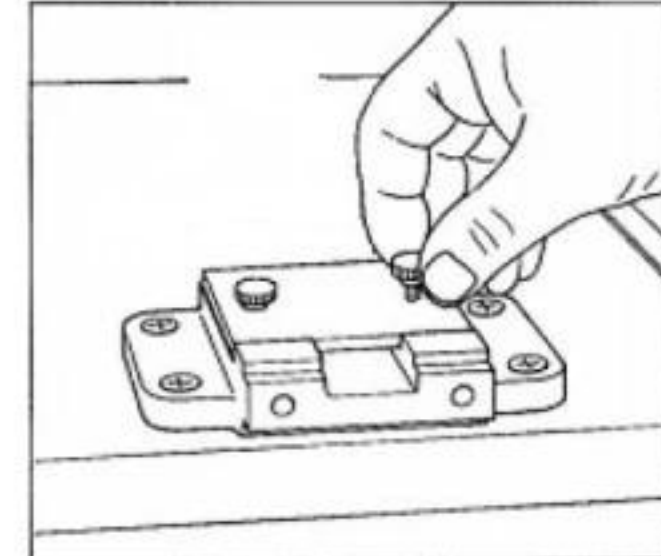

Fig. 10: Unscrewing thumbscrews from wire retaining plastic plate
- 4) Unscrew the thumbscrews from the wire retaining plastic plate (Fig. 10).